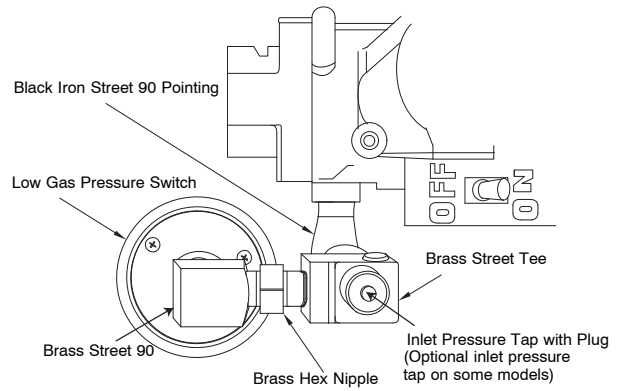

Fig. 9 – Low Gas Pressure Switch – All Widths
If the vent pipe passes between the inducer and burner assembly, or the furnace is a 14 3/16-in. (360 mm) wide casing, the switch may have been installed as follows (See Fig. 9).
1. Remove low-gas pressure switch, brass street 90° elbow, brass Hex nipple, brass Tee and black iron street 90° elbow from the gas valve inlet pressure tap. (See Fig. 9.)